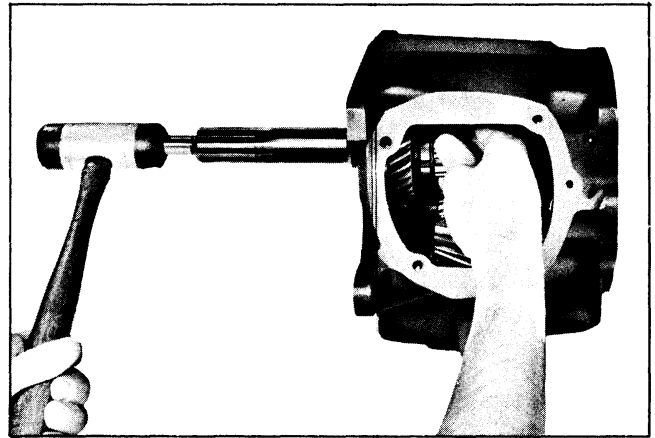

Fig. 7-19 Removing Clutch Gear and Bearing Assembly
12. Using soft hammer, tap front end of shaft, moving gear and bearing assembly into case. Remove through side opening (Fig. 7-19).